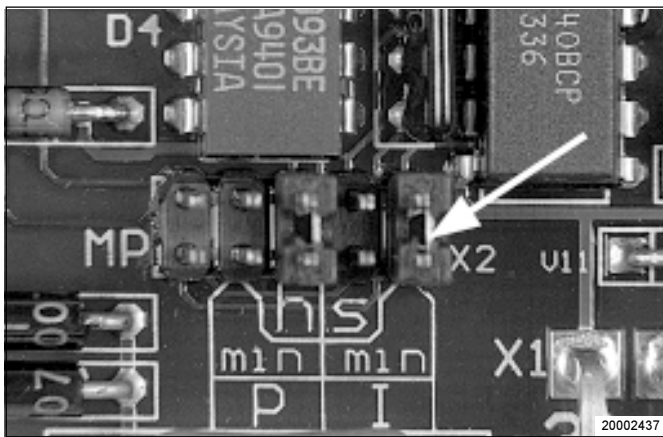

Fig. 11 - Preselection of the time range
- The time ranges can be modified by replugging the jumper (Fig. 11) on the printed circuit board.